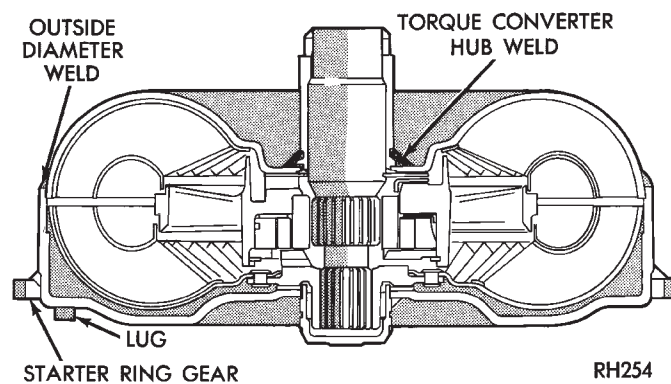

Fig. 10 Converter Leak Points—Typical
- (1) Leaks at the weld joint around the outside diameter weld (Fig. 10).
- (2) Leaks at the converter hub weld (Fig. 10).